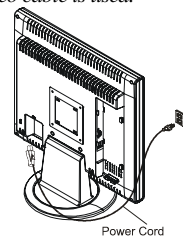

Figure 1-6
1. Connect the power cord to the AC socket.(See Fig. 1-6)